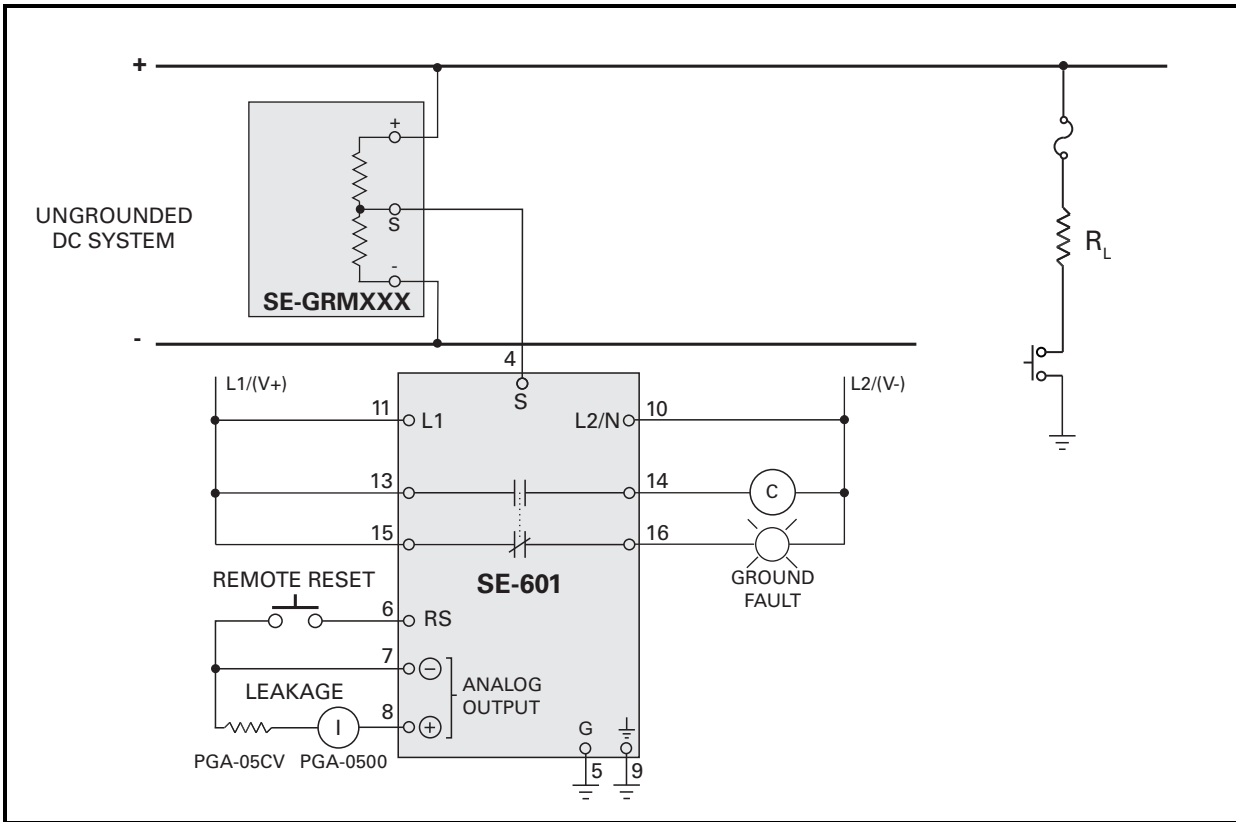

FIGURE 10. System Ground-Fault Test.
- d) For a system ground-fault test, install a fixed or variable resistance and switch that is suitably rated for the system. Install a fuse rated to protect the test circuit. The fixed test resistance can be sized to cause a ground-fault current just above the trip level setting. See Fig. 10. For a reference of fault-resistance values, see Table 1.